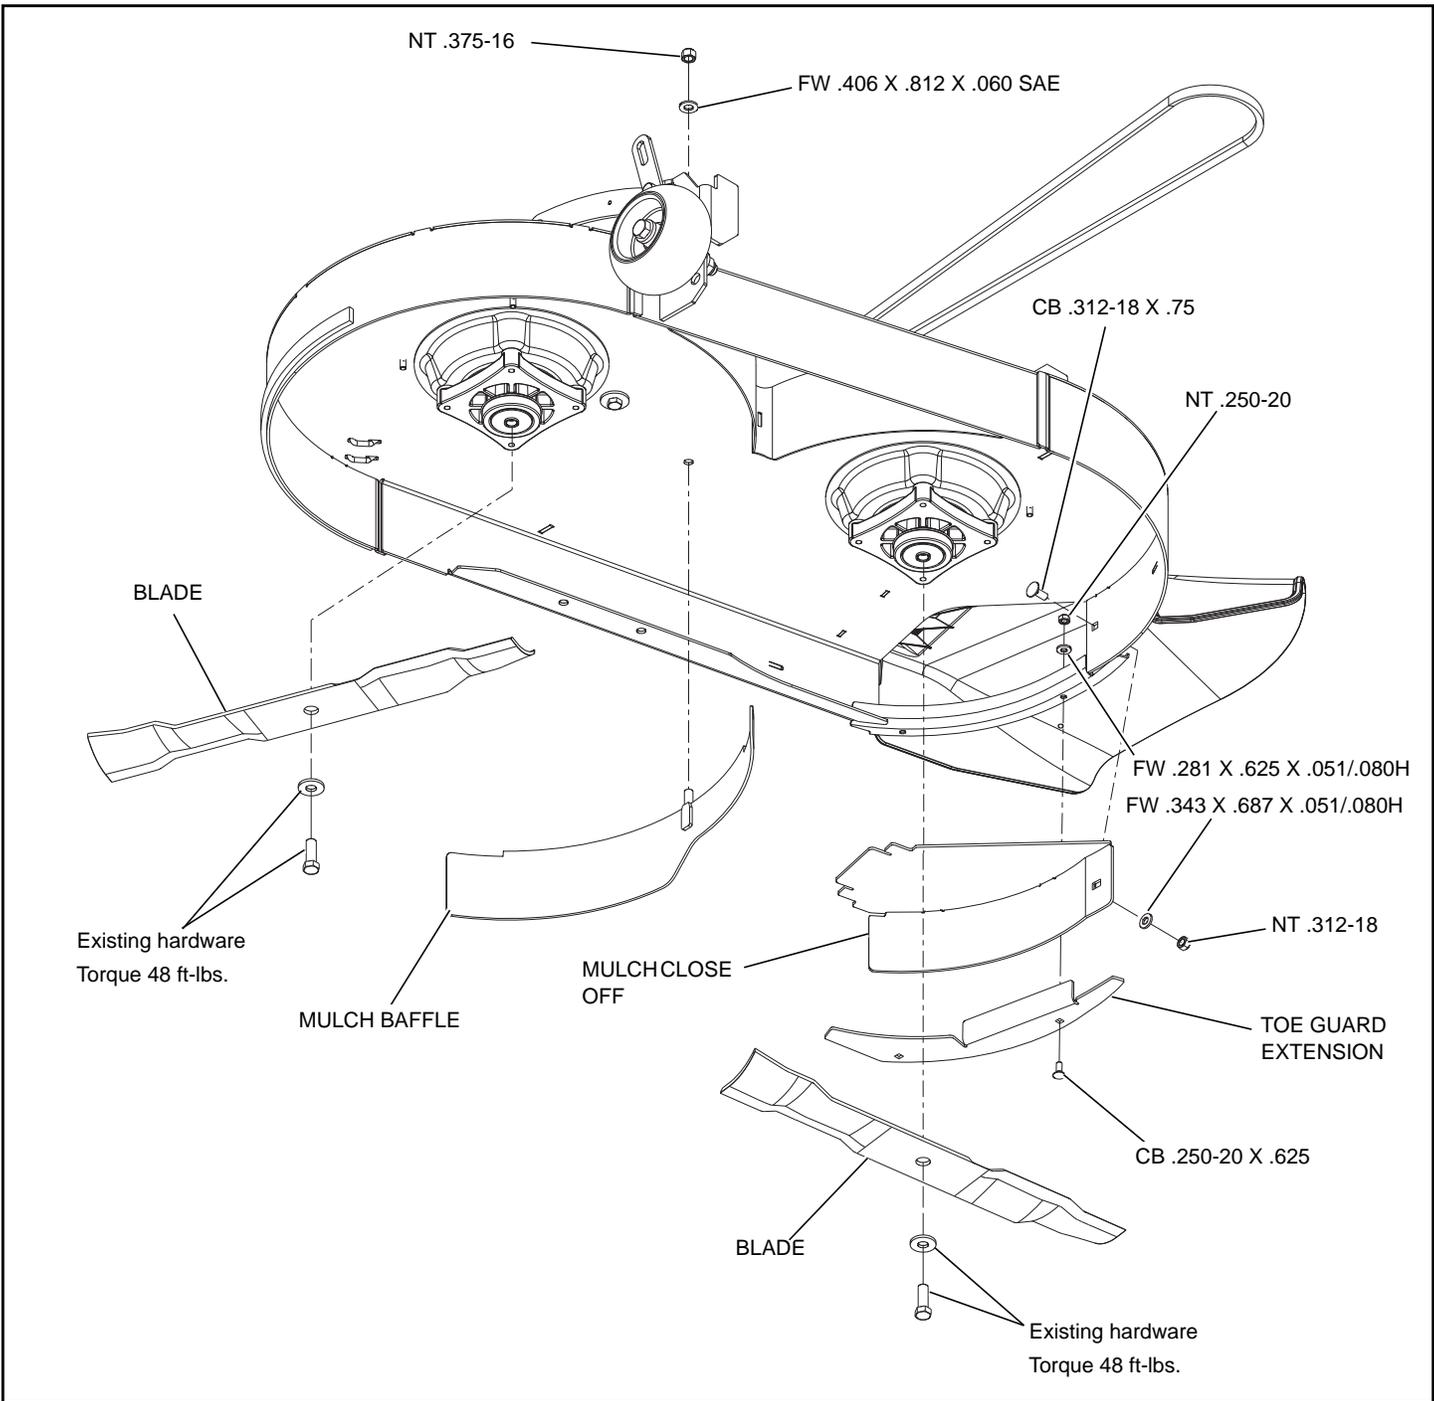

FIG. 1
4. Install the mulch baffle as shown. Fig. 1
5. Attach the mulch close off as shown. Fig. 1
6. Attach the toe guard extension as shown. Fig. 1
7. Attach the mulching blades to the spindles using the existing blade hardware. Torque bolts on spindles to 48 ft-lbs. (65.14 N-m) when reinstalling blades. Fig. 1